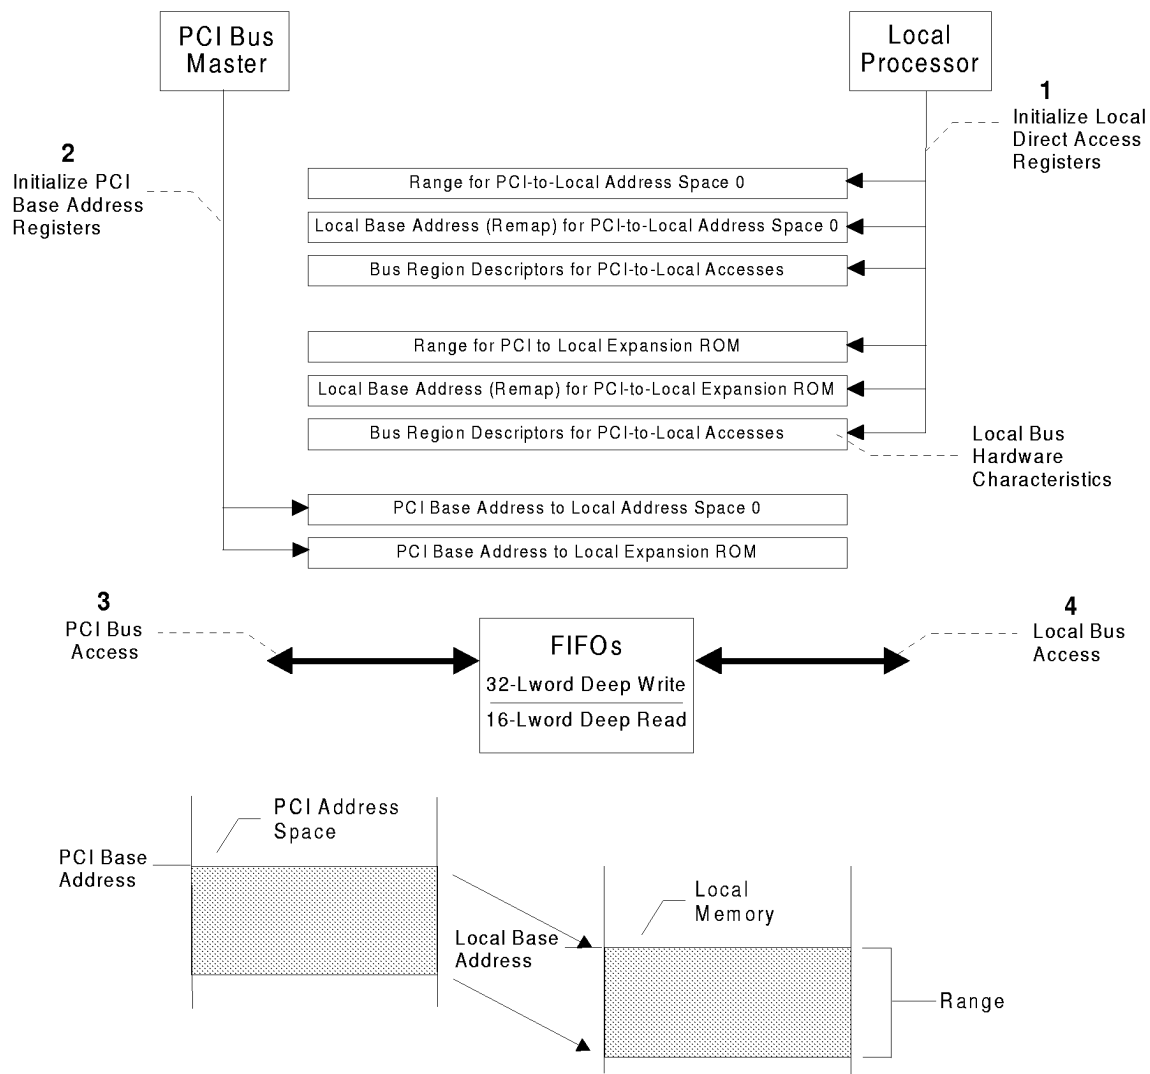

Figure 3-9. Direct Slave Access of the Local Bus
A fourth register, the Bus Region Descriptor register for PCI-to-Local Accesses (LBRD0 and/or LBRD1), defines the Local Bus characteristics for the Direct Slave regions (refer to Figure 3-9).
After a PCI reset, the software determines how much address space is required by writing all ones (1) to a PCI Base Address register and then reading back the value. The PCI 9054 returns zeroes (0) in the Don't Care Address bits, effectively specifying the address space required. The PCI software then maps the Local Address space into the PCI Address space by programming the PCI Base Address register. (Refer to Figure 3-9.)